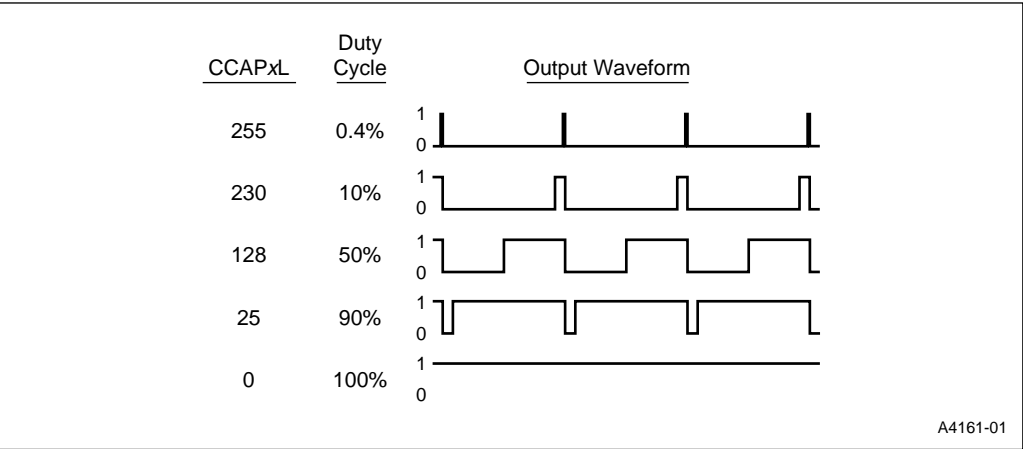

Figure 11-6. PWM Variable Duty Cycle
In this mode the value in the low byte of the PCA timer/counter (CL) is continuously compared with the value in the low byte of the compare/capture register (CCAP_xL). When CL < CCAP_xL, the output waveform (Figure 11-6) is low. When a match occurs (CL = CCAP_xL), the output waveform goes high and remains high until CL rolls over from FFH to 00H, ending the period. At rollover the output returns to a low, the value in CCAP_xH is loaded into CCAP_xL, and a new period begins.
The value in CCAPxL determines the duty cycle of the current period. The value in CCAPxH determines the duty cycle of the following period. Changing the value in CCAPxL over time modulates the pulse width. As depicted in Figure 11-6, the 8-bit value in CCAPxL can vary from 0 (100% duty cycle) to 255 (0.4% duty cycle).